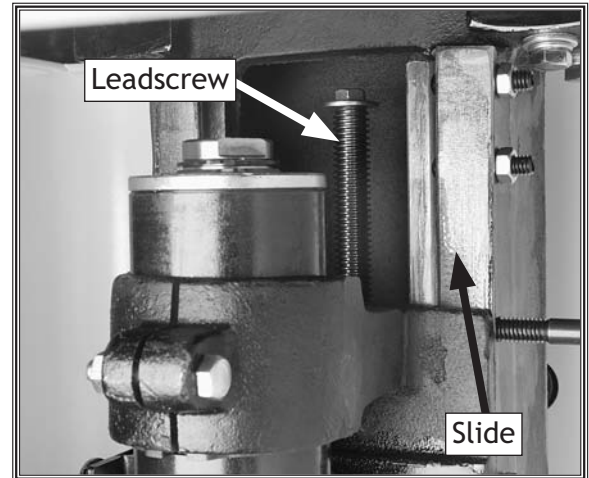

Figure 49. Spindle slide and leadscrew.
2. Use the spindle height handwheel to lower the spindle all the way, then access the elevation assembly through the rear of the cabinet (see Figure 49).